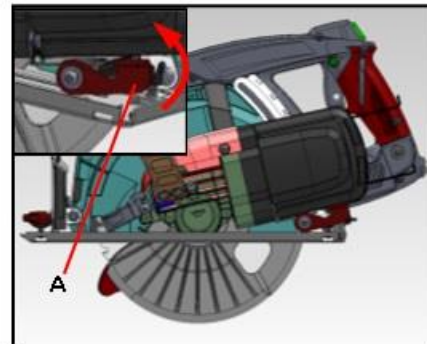

Fig.15
1. Loosen the lock lever (A) to loosen the base plate. **Fig.15.**